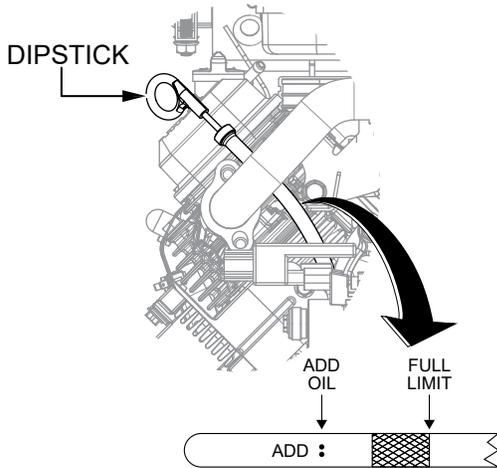

Figure 15. Engine Oil Dipstick
2. Pull the engine oil dipstick (Figure 15) out of its holder and wipe it with a clean cloth.
4. Determine if engine oil is low. Oil should be between the upper and lower marks (Figure 15) on the dipstick.